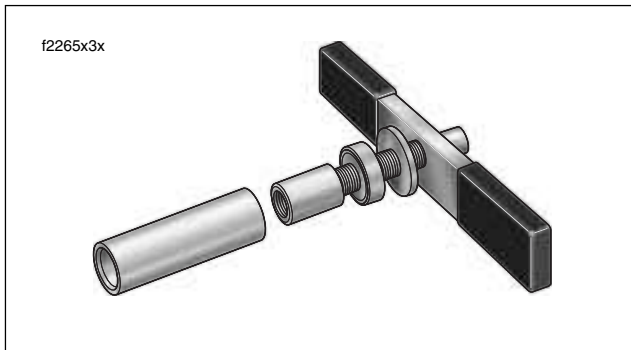

Figure 3-129. Sprocket Shaft Timken Bearing Cone Installer (Part No. HD-97225-55B)
4. Obtain the SPROCKET SHAFT TIMKEN BEARING CONE INSTALLER (HD-97225-55B). See Figure 3-129. Assemble tool as described below.